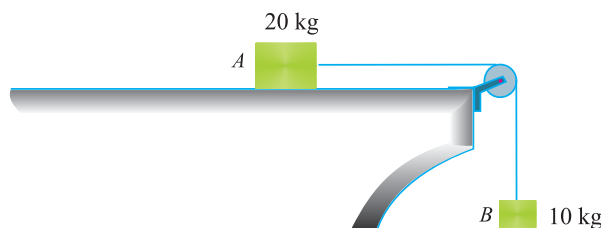

Fig. 25.7.
**Example 25.5.** Two blocks shown in Fig. 25.7, have masses  $A = 20 \text{ kg}$  and  $B = 10 \text{ kg}$  and the coefficient of friction between the block  $A$  and the horizontal plane,  $\mu = 0.25$ .